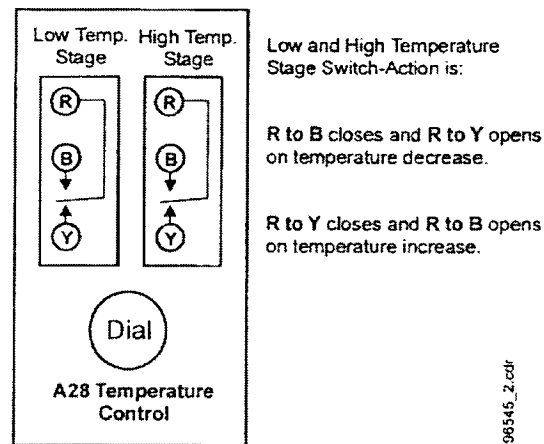

Figure 2: A28 Temperature Control Switch Action
4. Make wiring connections to the screw terminals. See Figure 2, Figure 3, and Figure 4.
Adjust the dial to a lower or higher set point and check contact action of the switches to see that they are operating as illustrated in Figure 2, Figure 3, and Figure 4.